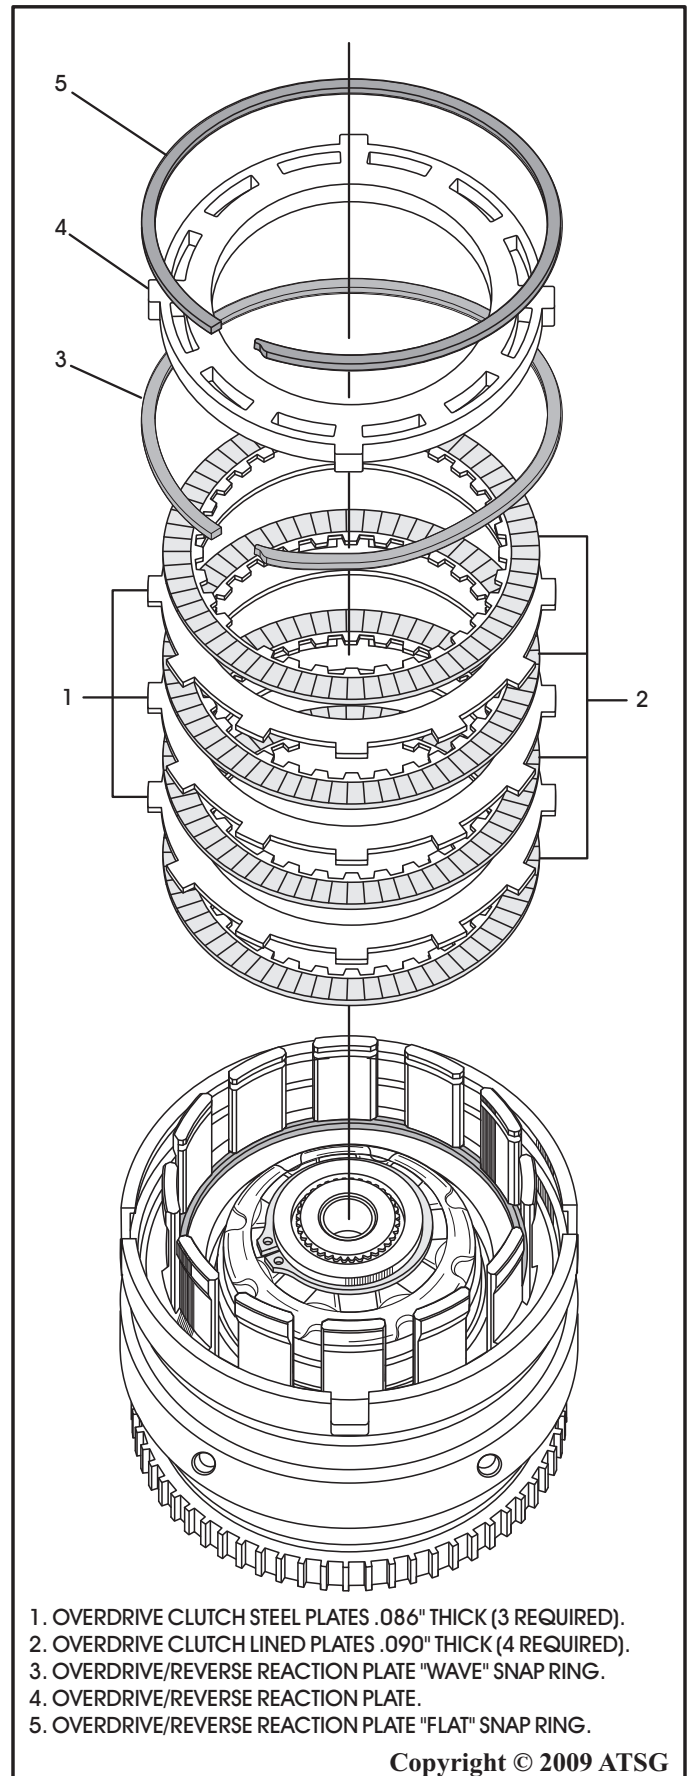

Figure 79
28. Install the overdrive clutch pack starting with a lined plate and alternating with steel plates until you have installed 4 lined and 3 steel plates, as shown in Figure 79. Note that the overdrive plates do not have the half-moon cut on tabs.
29. Install the overdrive/reverse reaction plate **wave** snap ring into the wide groove in the overdrive/reverse piston and push the snap ring to the bottom of the groove (See Figure 79).
30. Install the overdrive/reverse reaction plate into the retainer as shown in Figure 79. The reaction plate is non-directional and can be installed in either direction.